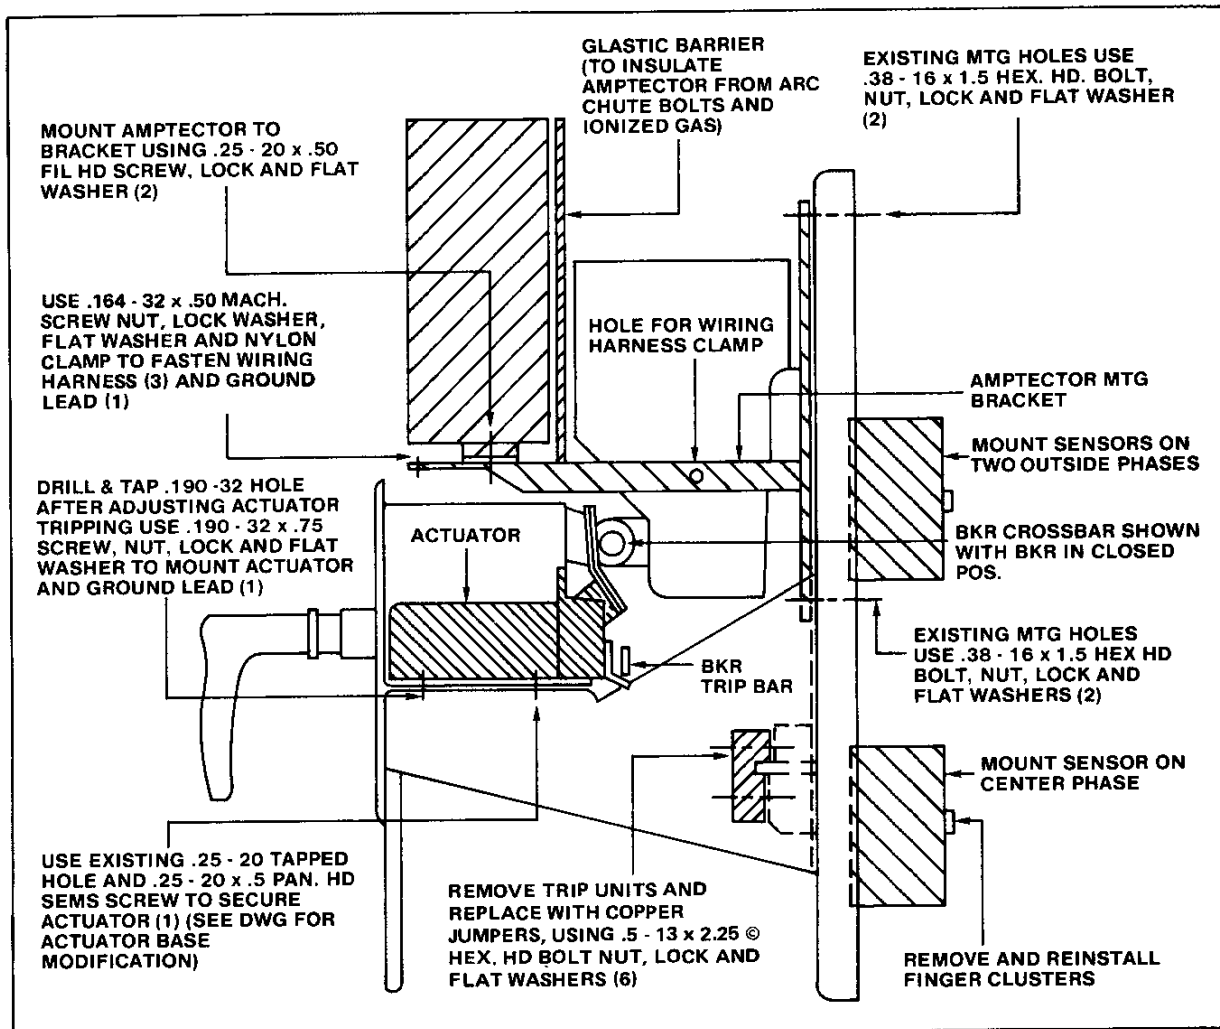

Fig. 16 Right Side View of DB-15
① NOTE: Kit may contain more hardware than required due to multi-purpose use.
- B. Familiarize yourself with right hand side view of breaker, see Fig. 16.